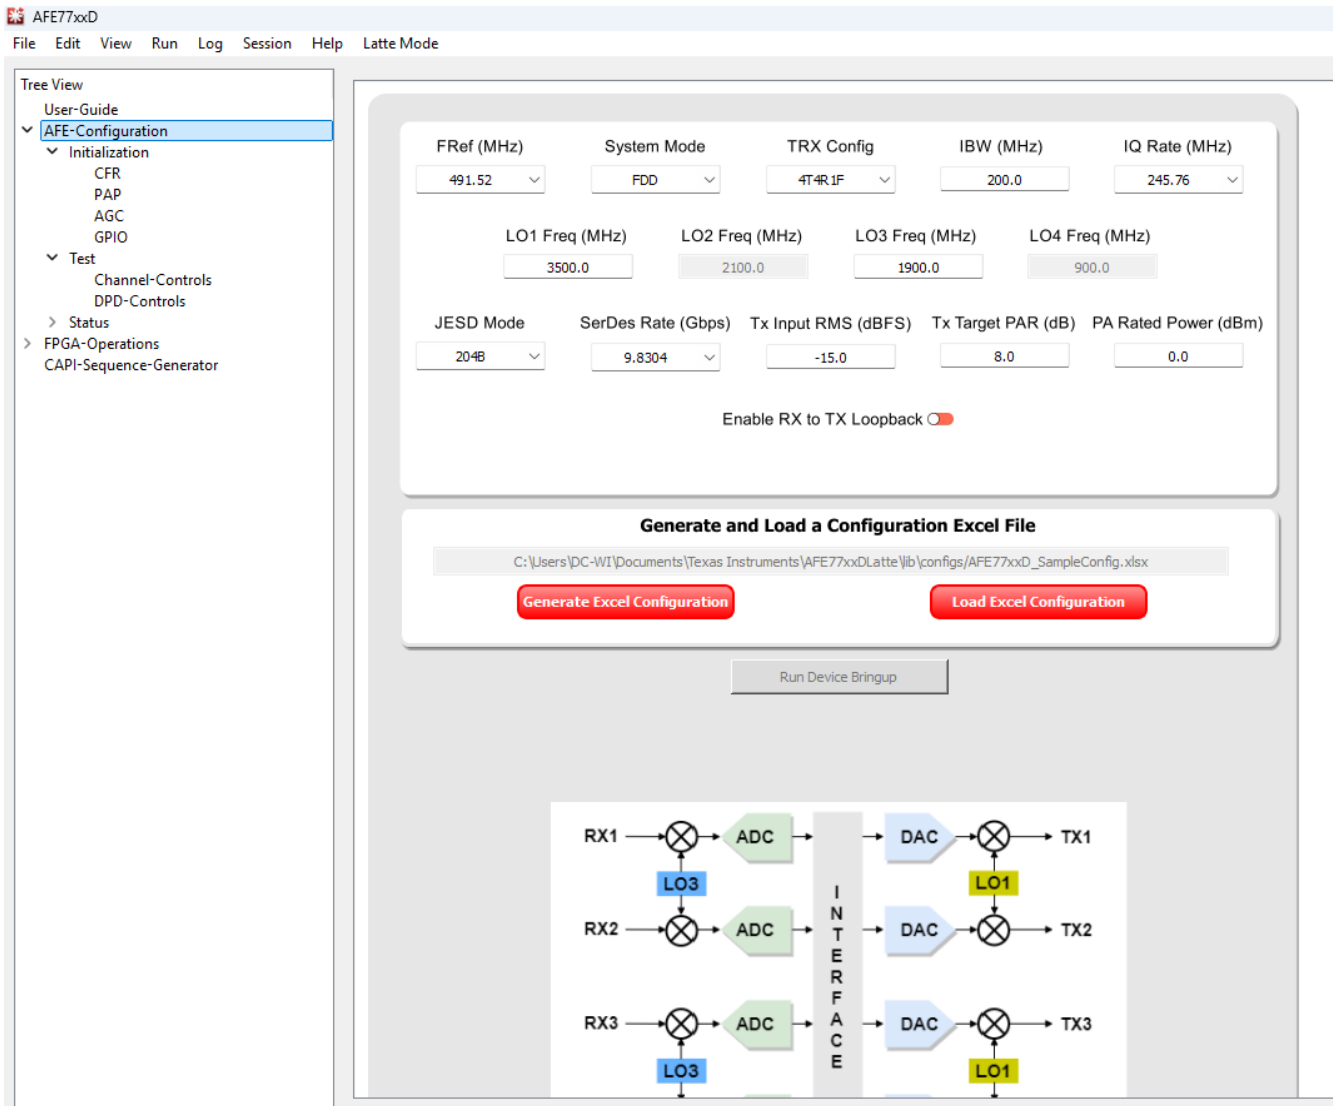

Figure 3-10. Main Window: AFE-Configuration
- Click *Browse* under *Load System Parameters* and select the "AFE77xxD_Picocom_pc802_K1L.xlsx" config file under "\Documents\Texas Instruments\AFE77xxDLatte\lib\configs". After selecting the file, click *LOAD*. Figure 3-10 shows the main window screen. You should also see a message in the Log window saying that the configuration was loaded.